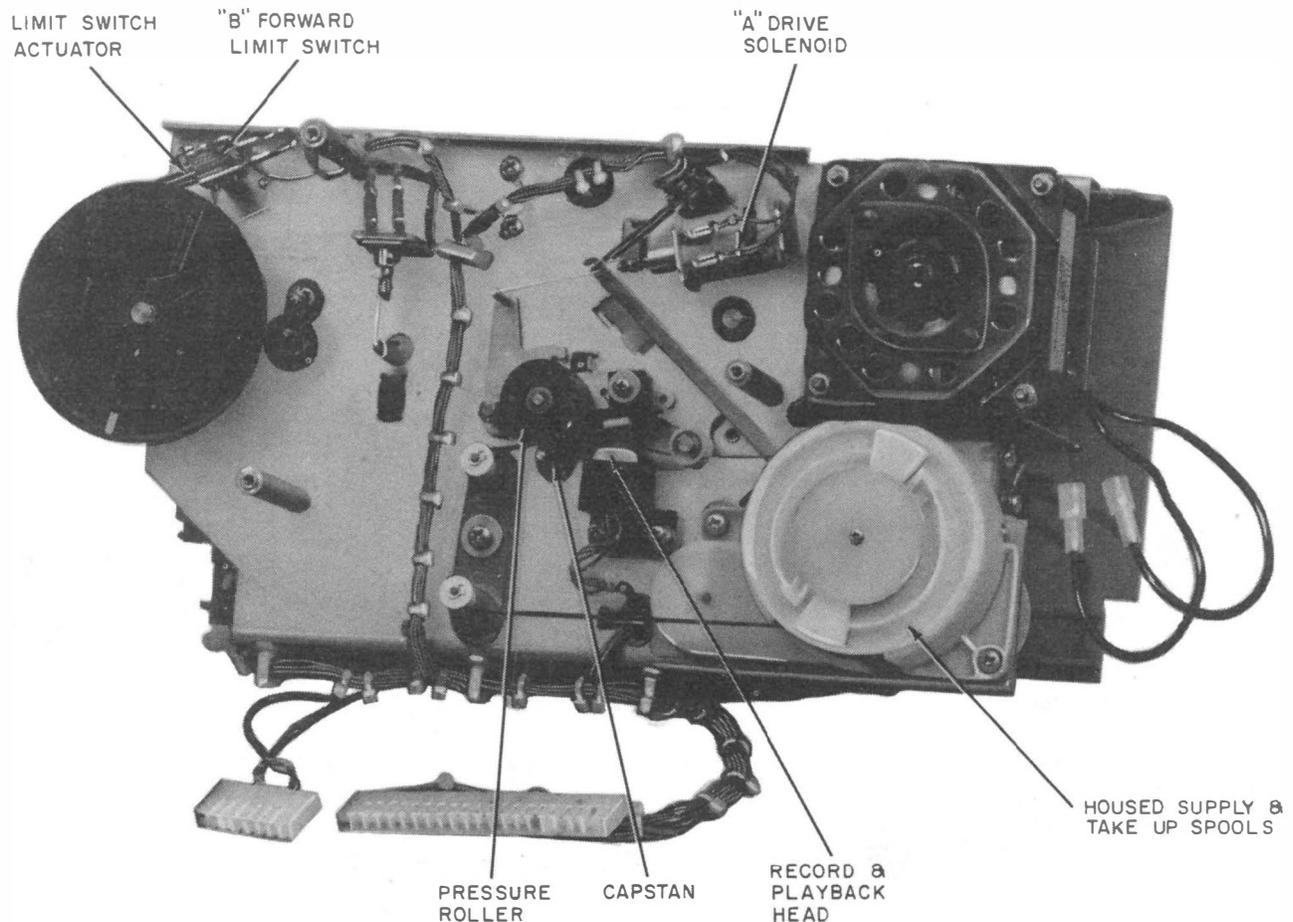
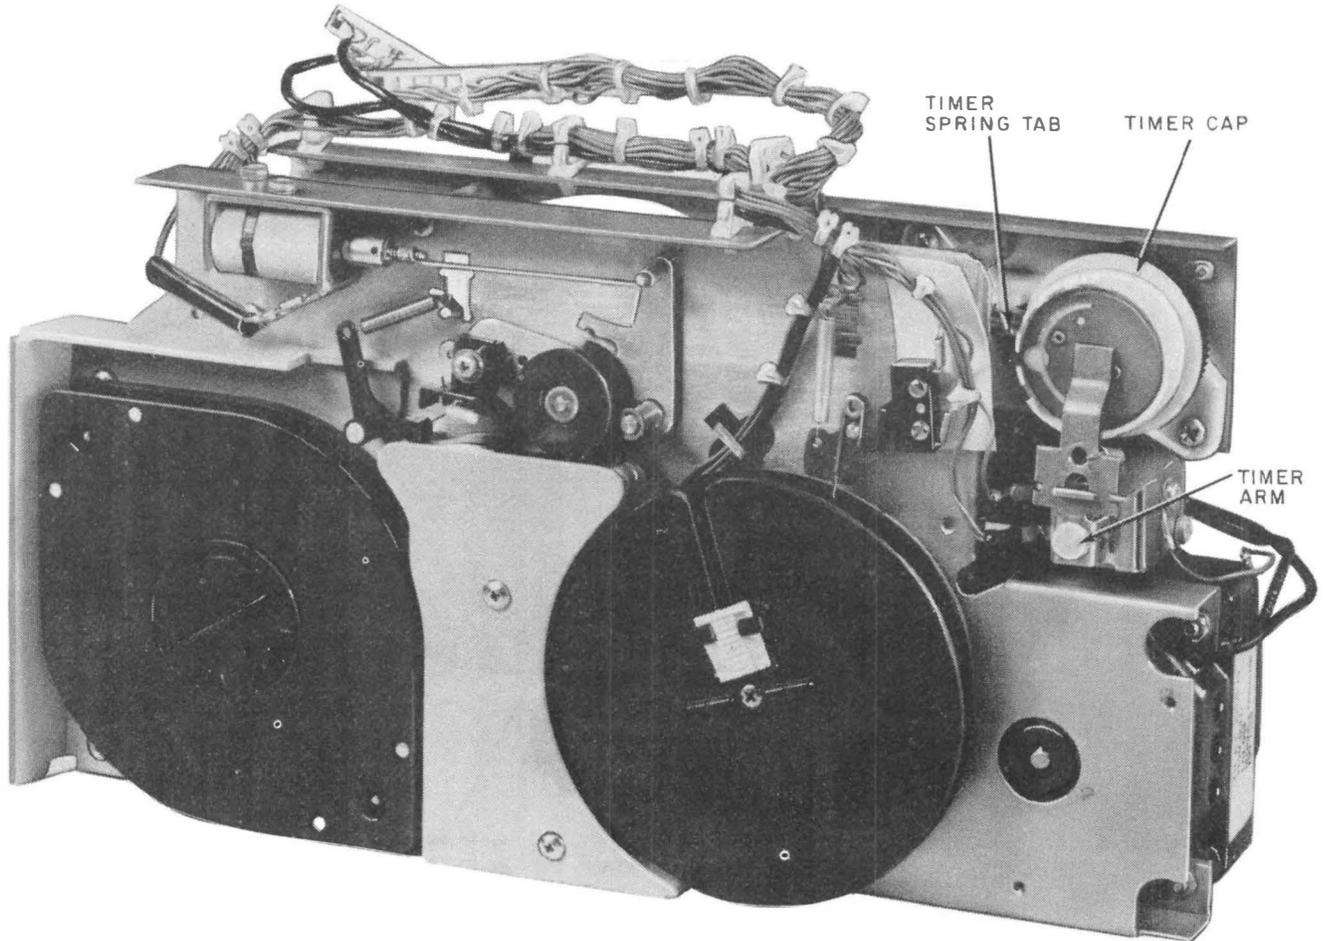

Fig. 11 —KS-19245, List 21 Tape Deck With Trimplate Removed (Announcement Side)
Fig. 12—KS-19245, List 21 Tape Deck With Trimplate Removed (Message Side)
3.02 Components of the KS-19245, Lists 13 (MD), 24 (MD), and 26 telephone answering sets are as follows.
- (a) **The KS-19245, List 22 Tape Deck** (Fig. 11 and 12) contains both the announcement and message recording mechanism. The announcement record mechanism (Fig. 11) provides a maximum recording capacity of 3 minutes and incorporates a variable cycle feature that limits the reproduce cycle to the duration of the recorded announcement only. This recorder is equipped with 1/4-inch wide plastic base magnetic recording tape installed on special reels. The tape and reels form an integral part of the recording mechanism and **cannot** be changed by the customer since replacement of either requires partial disassembly of the mechanism. Facilities are provided for limiting the maximum recording time to 15-second increments (from 15 seconds to 90 seconds) or 30-second increments (from 90 seconds to 180 seconds). This is done by adjusting the timer cap. The adjustment may only be made by the installer. The incoming message recording mechanism (Fig. 12) provides a maximum recording capacity of 2 hours on 1/4-inch wide plastic base magnetic recording tape. This tape is contained in the KS-
19245, List 6 cartridge which may be conveniently changed by the customer. Facilities are provided for limiting the message recording time to 1 or 2 hours. This is done by adjusting the limit switch actuator (Fig. 11). The adjustment may only be made by the installer.